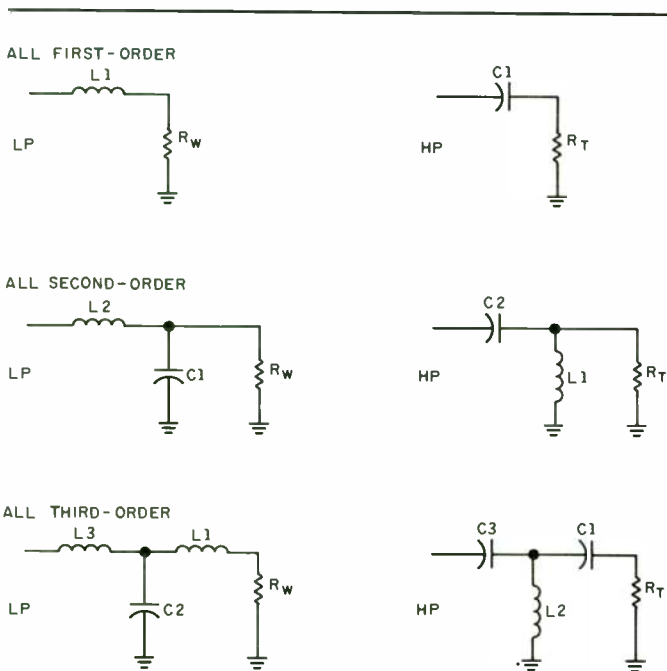

FIGURE 1: Schematics for two-way crossovers.
TWO-WAY CO RESULTS. Figure 1 shows the schematic diagram for all two-way COs covered in this work. Component labeling is in agreement with Bullock (SB 1/85 p. 13). Table 1 shows the results for all two-way COs. The first-order has almost all unity factors and, as expected, low stress on the parts. For second-order COs, the Butterworth (BW) appears to be toughest on its components, while the All-Pass (AP) is the mildest. The Bullock Equal Compromise is, as you might expect, in between. The low-pass (LP) inductor sees about the same current as the load, while the high-pass (HP) inductor sees a maximum of about one-half